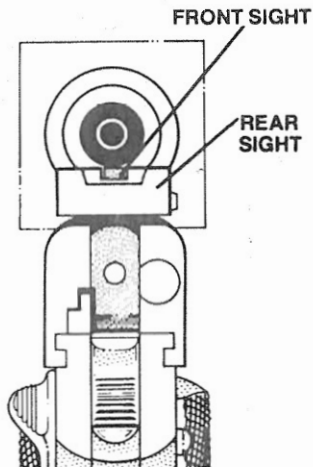

Figure 6 Aiming
3. Grasp pistol by stock and, with index finger resting along the outside of trigger guard, take aim. (Aim by aligning target with front and rear sights, (See Figure 6.)